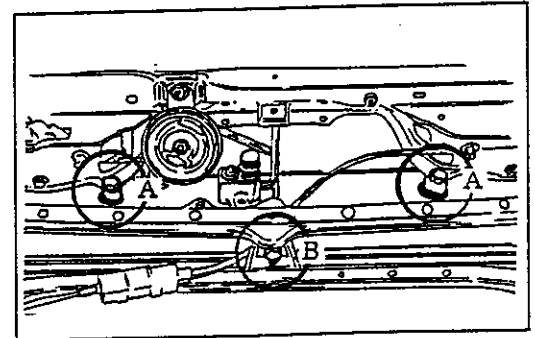

Fig. 8
(1) Mount the intercooler using 8mm x 15mm bolts at "A" and the aluminum spacer with the 8mm x 25mm bolt at "B" as shown in Fig. 8